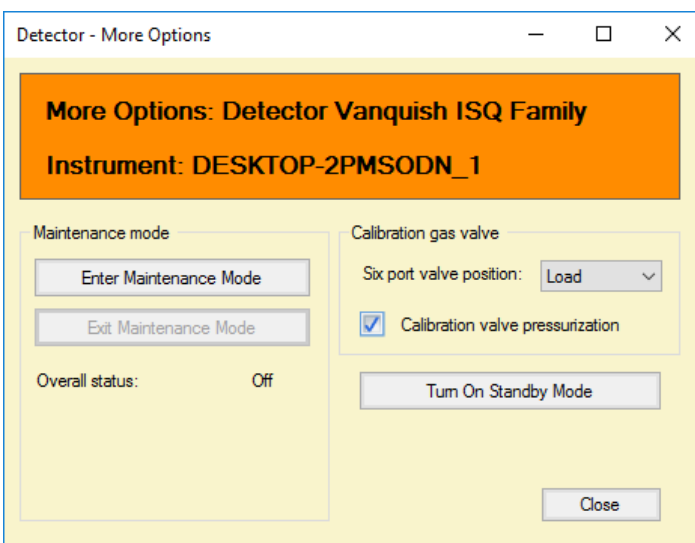

Figure 57: Checking the calibration valve pressurization box
- 2) Check the **Calibration Valve Pressurization** box. See Figure 57.